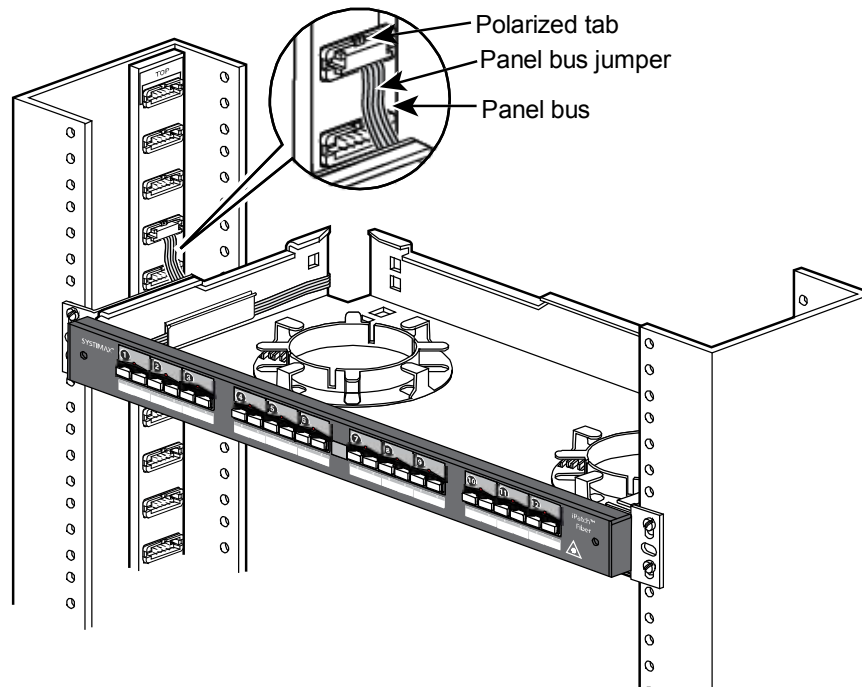

Figure 3 Connecting the Panel Bus Jumper to the Panel Bus
3. Connect the panel bus jumper to the nearest connector on the panel bus (Figure 3).